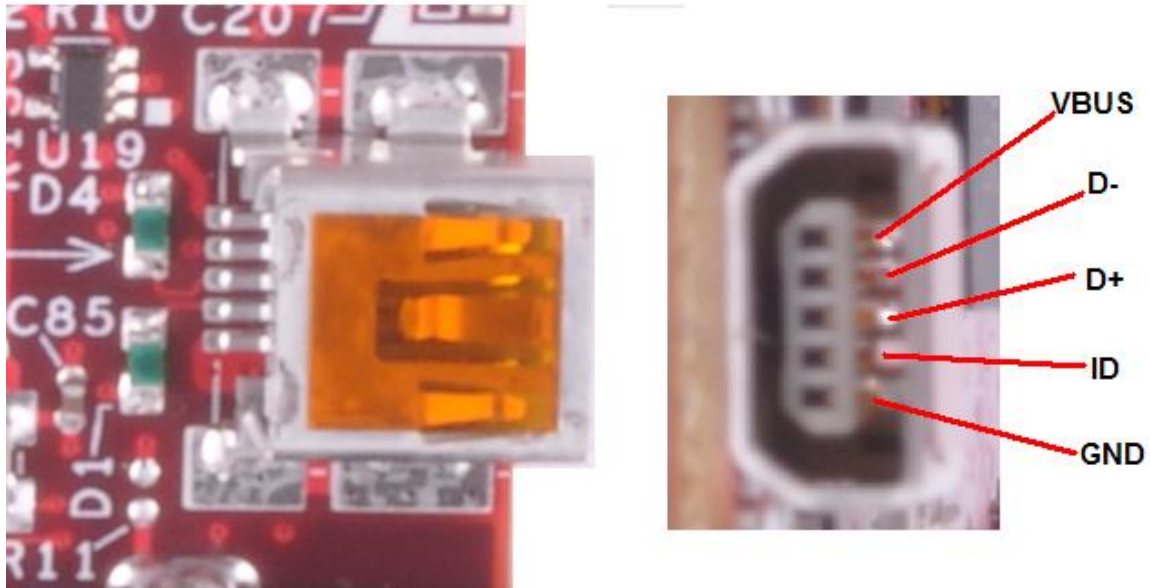

**Figure 52. Power Connector**
**Figure 52** is a picture of the BeagleBoard power connector with the pins identified. The supply must have a 2.1mm center hot connector with a 5.5mm outside diameter.